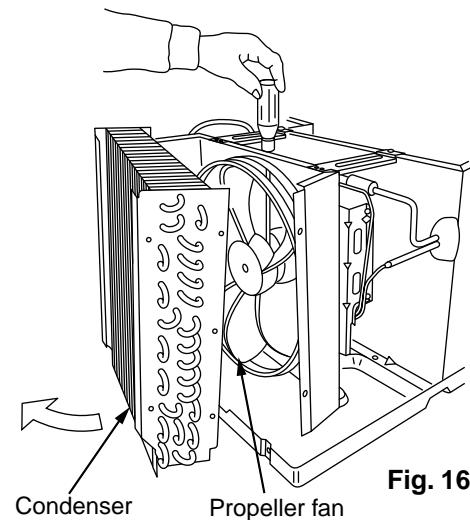

Fig. 16
- (2) Loosen the bolt holding the propeller fan on the motor shaft. (Fig. 16)